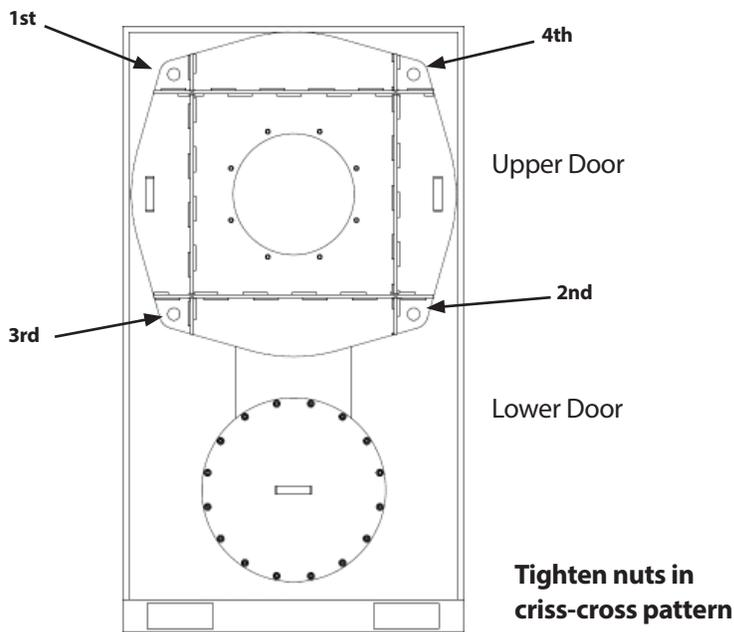
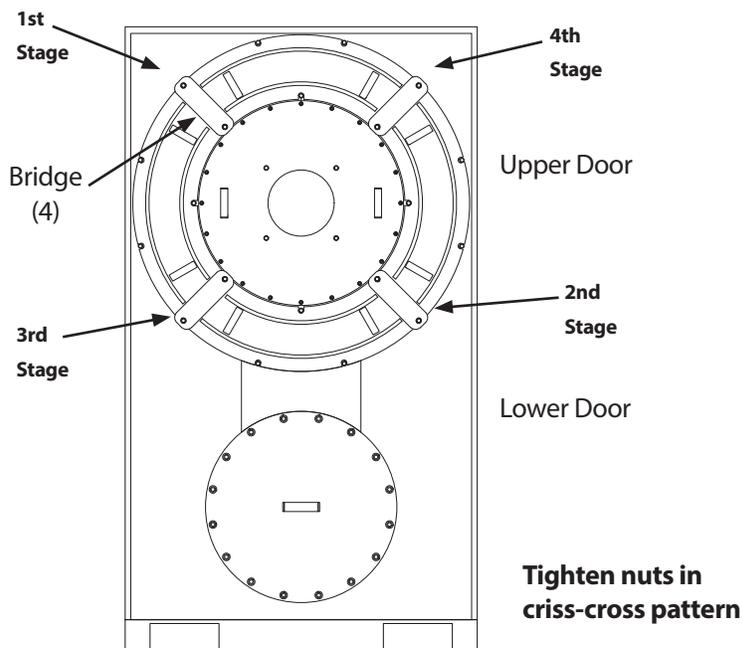

FIGURE 15A - VERIFYING TORQUE SETTINGS (FRONT VIEW, PANELS REMOVED)
FIGURE 15B - VERIFYING TORQUE SETTINGS (FRONT VIEW, PANELS REMOVED)
<p>VTG-2000 through VTG-5000 Sizes Only:</p>	<p>Evenly tighten all 4 nuts on the upper door in five stages, in a criss-cross pattern: top left, bottom right, bottom left, top right (see Figure 15A), in the following order:</p> <ul style="list-style-type: none"> ▪ 20 ft/lbs (27.1 NM) ▪ 35 ft/lbs (47.4 NM) ▪ 50 ft/lbs (67.8 NM) ▪ 100 ft/lbs (135.5 NM) ▪ 130 ft/lbs (176.2 NM) <p>Recheck all nuts in a circular pattern, and proceed to step 4.</p>
<p>VTG-6000 Size Only:</p>	<p>See Figure 15B. Evenly tighten all nuts as follows, in sequence:</p> <ul style="list-style-type: none"> ▪ Inner bridge bolts to 30 ft/lbs (40.7 NM) ▪ Outer bridge bolts to 30 ft/lbs (40.7 NM) ▪ Remaining inner bolts to 20 ft/lbs (27.1 NM) ▪ Remaining outer bolts to 20 ft/lbs (27.1 NM) ▪ Repeat the same process at 60/40 ft/lbs (81.4/54.2 NM); 90/60 ft/lbs (122/81.4 NM); 120/80 ft/lbs (162.7/108.5 NM). <p>Recheck all at 120/80 ft/lbs (162.7/108.5 NM), and proceed to Step 4.</p>
4. Verify settings of the lower door. The lower door is retained by (16) 3/8" bolts. Tools required for lower door setting verification:
5. Evenly tighten all bolts on the lower door to 23 ft/lbs (31.2 NM) in a criss-cross pattern. See Figure 15a and Figure 15b. Do not over torque, as this can result in damaging of the door seal.